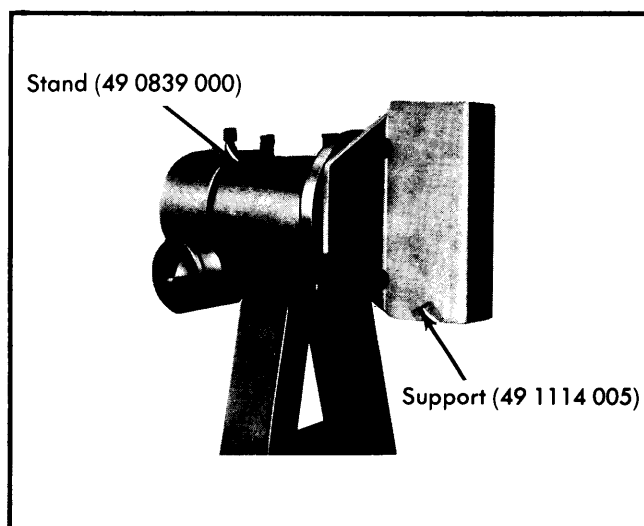

Fig. 2 Engine Stand & Hanger Support
**NOTE** — To simplify engine disassembly, manufacturer recommends use of a special engine stand (49 0839 000 or 49 0107 680A) and special hanger (49 1114 005) for supporting the front housing. See Fig. 2. Also note that this front housing support may be used on previous engines (where rear housing support units were previously used).